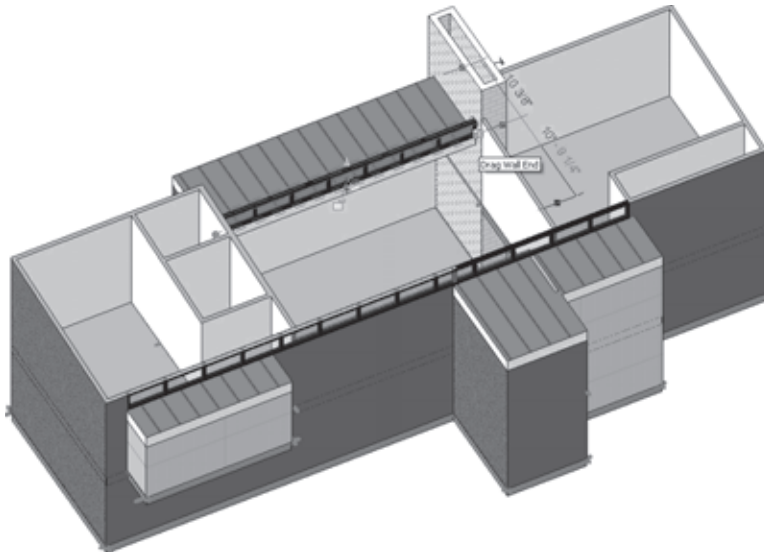

Figure 4.84
4. Add a similar curtain wall to the opposite side of the model (see Figure 4.84).